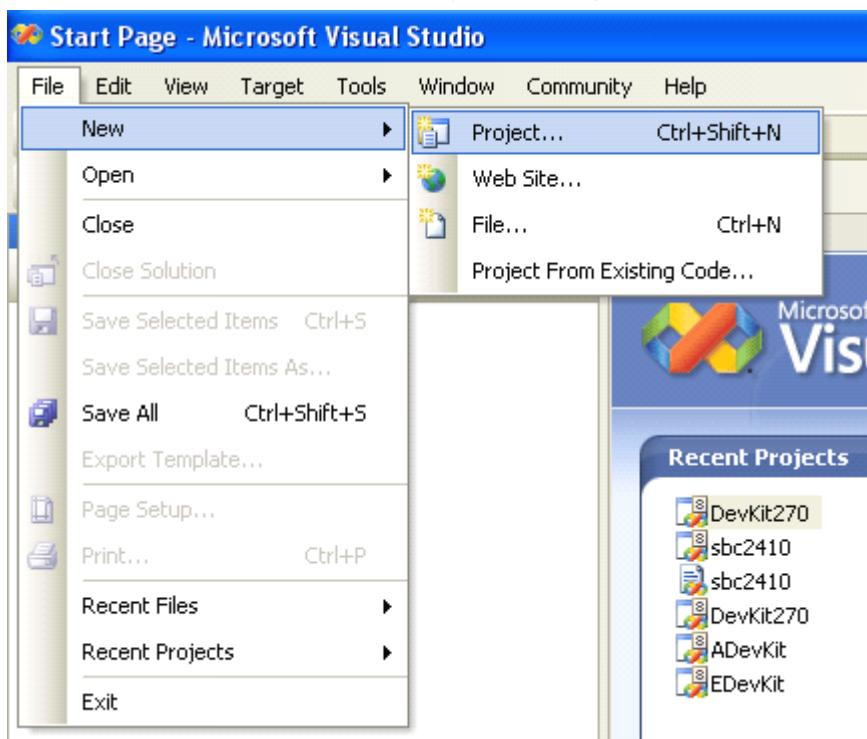

Figure 13.4.1
1. Open Visual Studio 2005, click File->New->Project, see Figure 13.4.1 below: